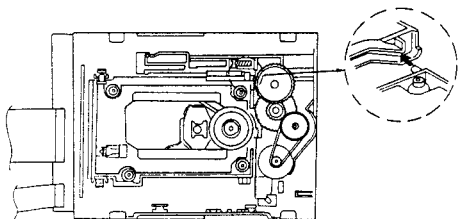

Figure 29
- (10) Fit the front end of the Traverse Deck as shown in Figure 29.